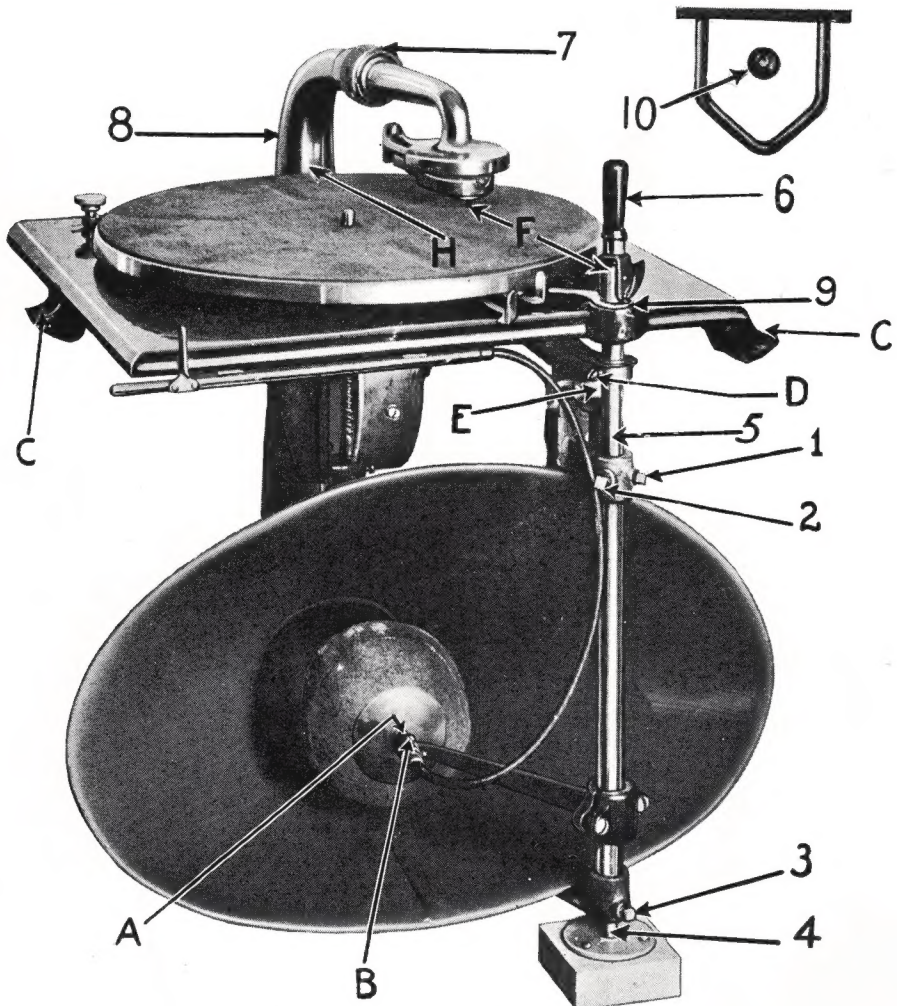

Figure 1—General Adjustment
(2) Replace lift shaft and handle (5) and (6), Figure (1). (If washer was found beneath finger (9), replace that also.) Pass the lift shaft (5) through friction spring (D) and into horn supporting shaft, but don't tighten up yet. Insert winding handle. Insert the three bolts at (C) which hold down the motor plate. Replace the washers and nuts from beneath and tighten up the three bolts.
(3) Push shaft (5) down as far as it will go, having handle (6) standing upright; for proper adjustment, be sure to have a piece of thick paper or business card placed underneath finger (9). Tighten first the screw (1) into slot of shaft, then tighten screw (2). Take out the card from beneath the finger (9). Raise the friction spring (D) on shaft (5), until the end of the spring is about $1/32$ of an inch from touching the underside of the motor plate, having the spring pointing in the same direction as the finger (9) above it.
(4) Replace mute ball and cable, also turntable and reproducer. Observe whether the limit pin on the front of the reproducer floating weight rides in position in the loop, when reproducer is lowered upon a RE-CREATION as indicated in (10), Fig. 1. If it is found necessary to adjust the reproducer, up or down to gain the right position of the limit pin, directions will be found on page 11, "To set the height of reproducer."
Refer to Figure (1). Place a RECREATION of standard thickness (that is, one that is 0.235" thick) on turntable. Lower reproducer into playing position and note position of weight limit pin. This pin should be clear of the under side of reproducer cup by a distance equal to the diameter of the pin. (Note 10 in figure 1.) With pin at this distance below cup casting, the diamond arm will be nearly parallel with RE-CREATION. If this arm is badly out of parallel with RE-CREATION it shows that diaphragm has become warped, or has some other defect, and the reproducer should be sent to your jobber for replacement.